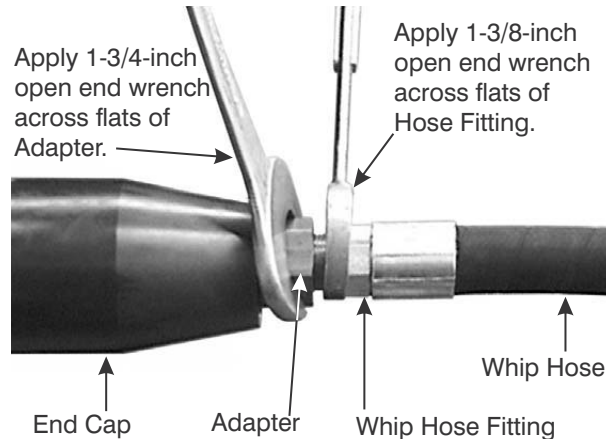

Figure 9-23. Secure Whip Hose To Adapter.
11. Use a 1-3/4-inch open-end wrench to hold the Adapter (11) in place, and a 1-3/8-inch open-end wrench to secure the Whip Hose (13) fitting in the Adapter (11) . See Figure 9-23.